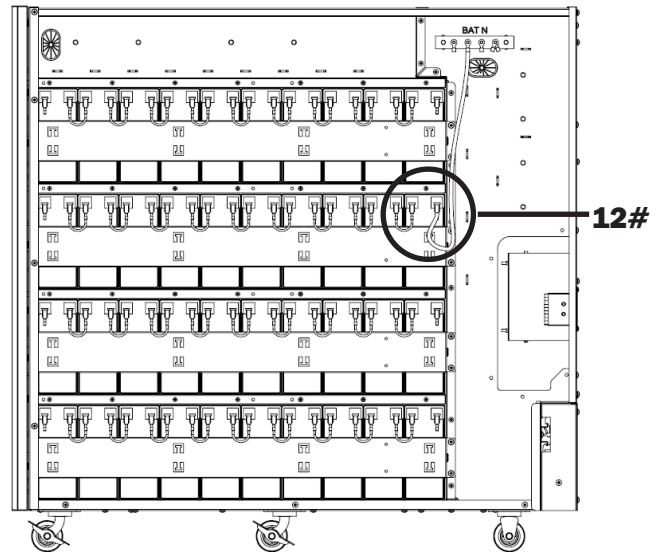

Figure 5-19B
28. Connect group 3 battery 11+ to N battery bus bar (BAT N) (Figure 5-19B).